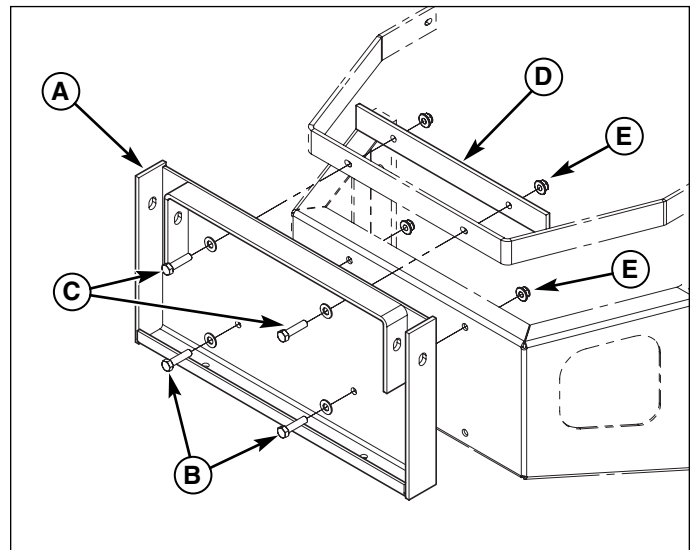

Figure 21. Install Collector Mount Plate
2. Install the collector mount plate (A, Figure 21) on to the lower bumper and secure with the previously removed 3/8" bolts, 3/8" washers (B) and new 3/8-16 nylock flange nuts (E).